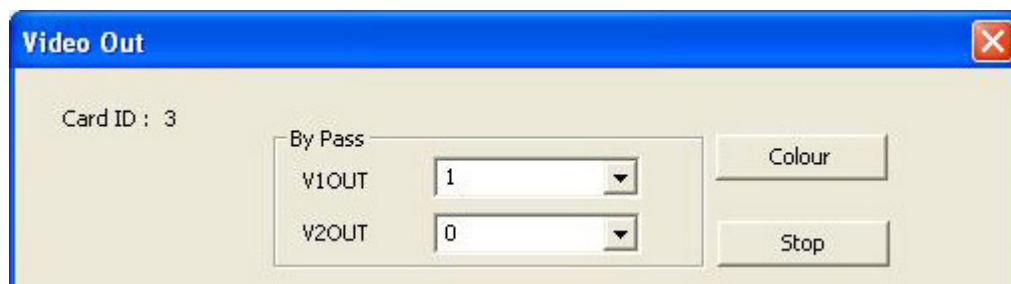

Figure 6-21: Video Out – By pass
Step 7: Select which channel to bypass. Once a channel is selected, it will start bypass the video to the display device. Click the Colour button to adjust the bypass video. (See **Figure 6-21**).